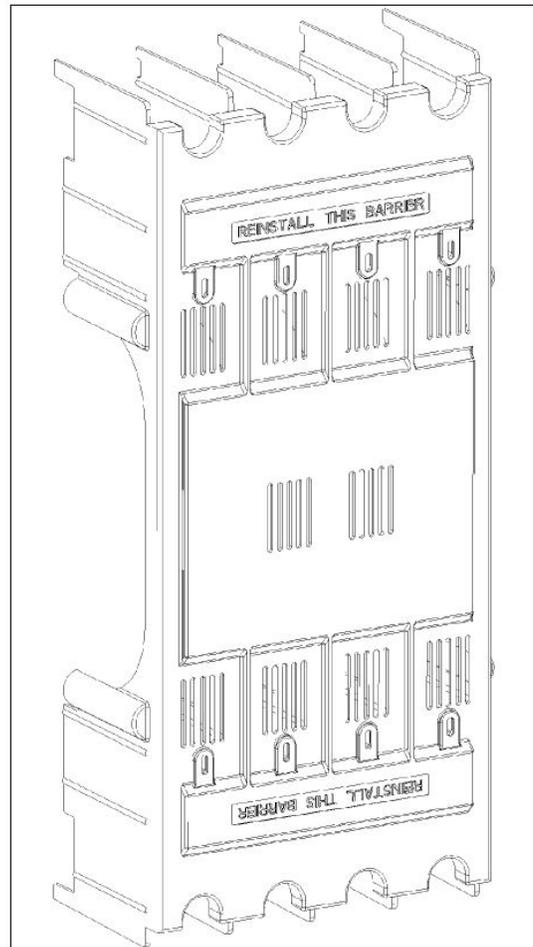

Figure 18. Transfer switch barrier removal
3. **Remove the barrier** (Figure 18). Use a Phillips (cross-head) screwdriver to loosen (ccw) four or six round-head screws that hold the barrier to the arc chutes. Then pull the barrier straight outward to remove it.